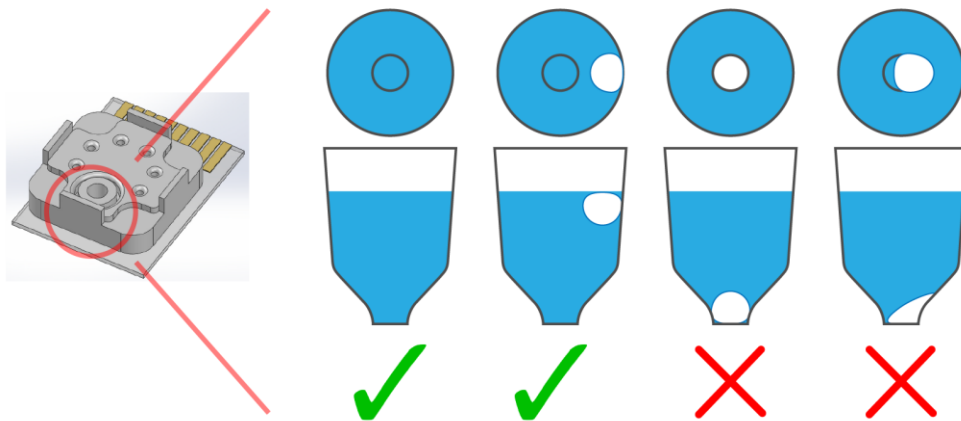

Figure 2. Any air bubbles in the analyte must not occlude the bottom of the reservoir.
- ❖ Ensure that any air bubbles in the sample are acceptably positioned in the reservoir (see Figure 2).